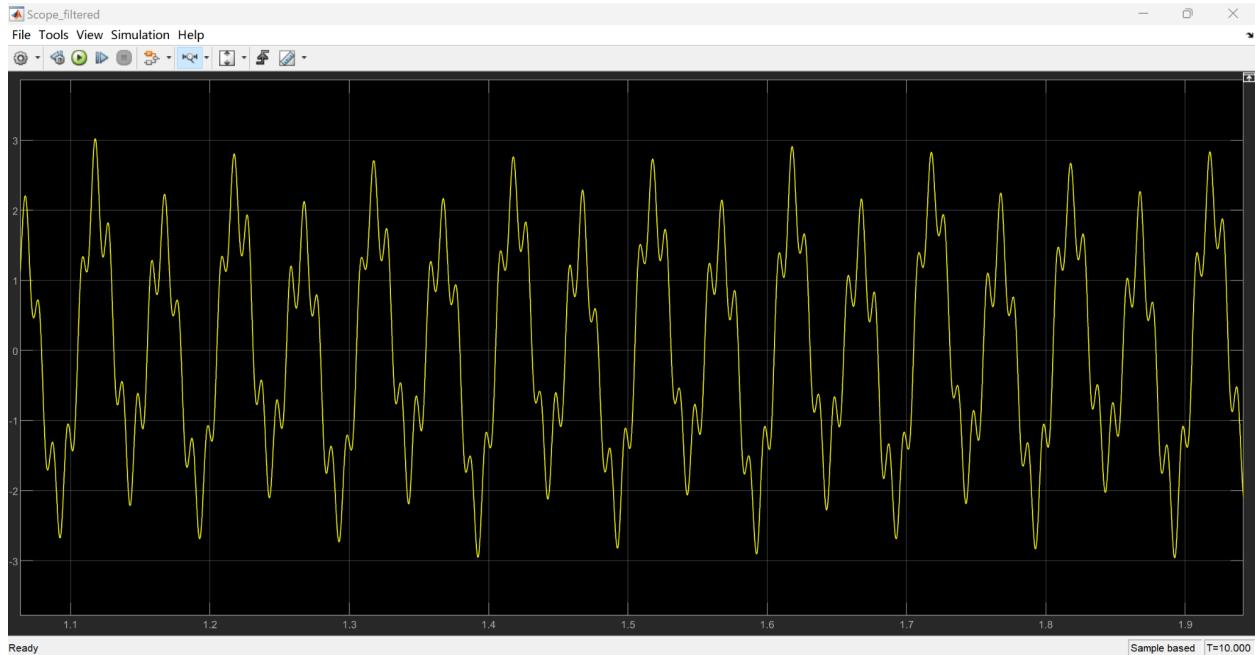
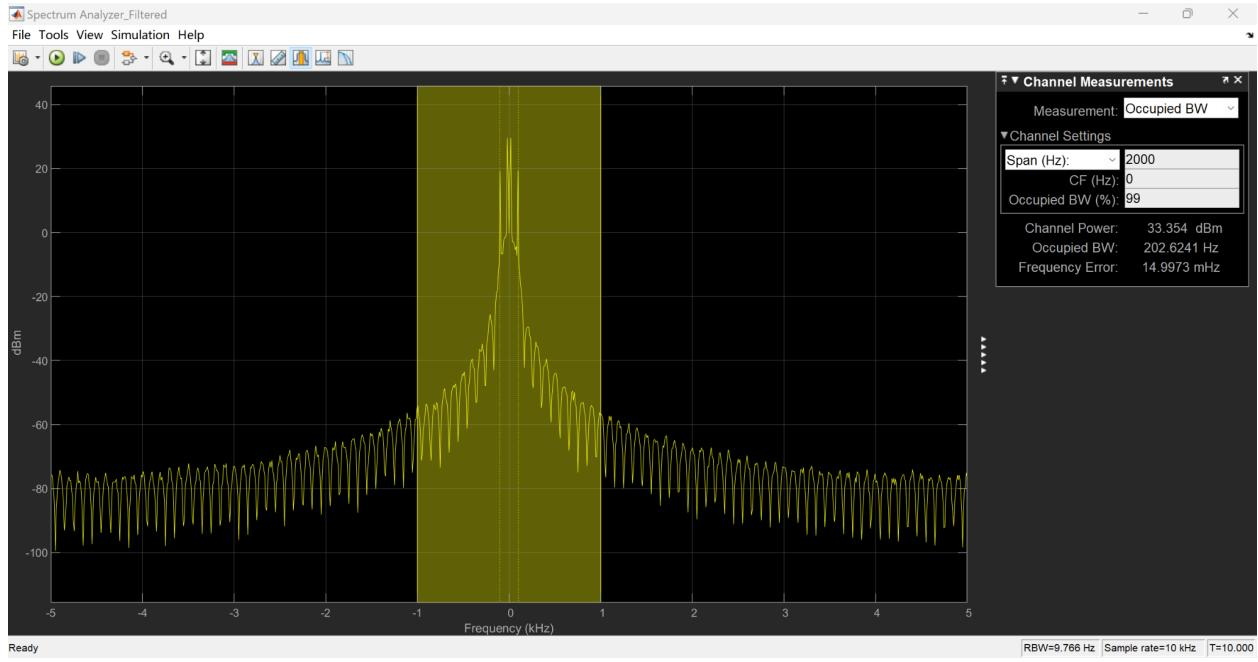

**Figure 7. Rx scope plot with a sum of three sine waves.**
*Figure 8. Rx spectrum plot with a sum of three sine waves.*
- 6) We then observe the outputs on Scope(Rx) and Spectrum(Rx) as shown in figure 7 and figure 8. We used the same parameter setup as part 5. Slider gain is set to 1. Comments on the noise will be provided at the Question section in the end.
**Answer:** As shown in figure 7 and figure 8, we can clearly see in the time domain, noise distort the source signal and make it less clearer. In the frequency domain, occupied bandwidth has increased with the noise, peak value and power remain stable.